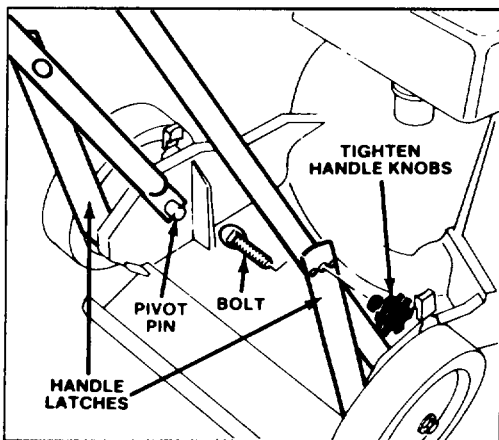
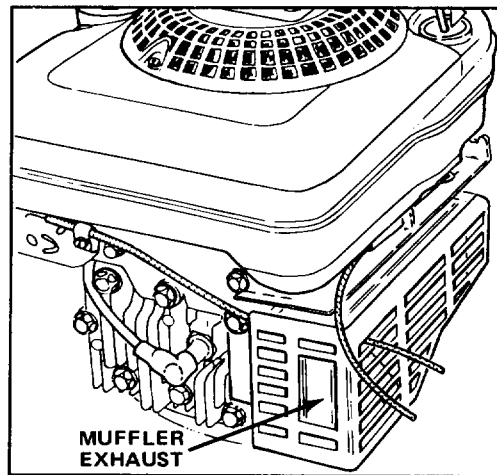

Figure 1
Figure 2
1. LOWER HANDLE (Fig. 1)—Push ends of lower handle together and install on pivot pins. Move handle and latches backward until mounting holes align. Insert bolts through hole in handle latches and install handle knobs. Tighten securely. Ensure control cables are to the rear and inside of handle and are not in path of muffler exhaust (Fig. 2).